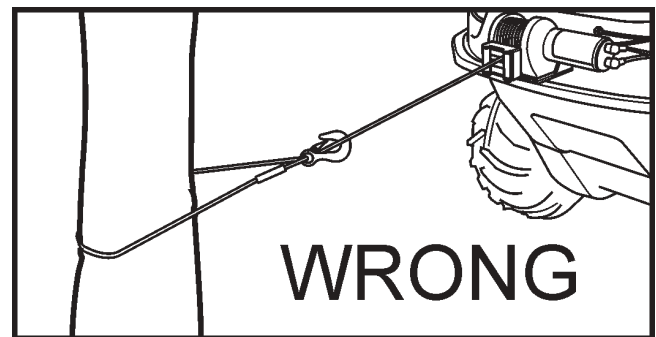

*Figure 11-21. Using the Handsaver Bar.*
7. Keep clear of winch wire rope and hook when operating winch. Never put your fingers through the hook when reeling in the last few feet of line. If your finger should become trapped in the hook, you could lose your finger. Use the **HANSAVER BAR** (Figure 11-21) to guide the hook within the last few feet. Never guide a wire rope onto the drum with your hand.